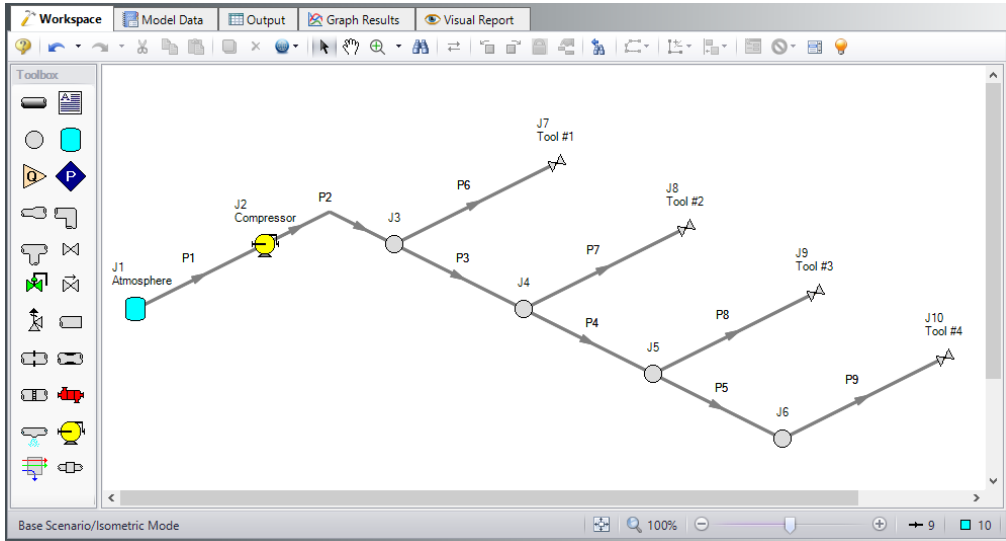

Figure 3.20 Compressed air system with isometric grid not shown
9. Draw Pipes P3-P9 as shown in Figure 3.20.